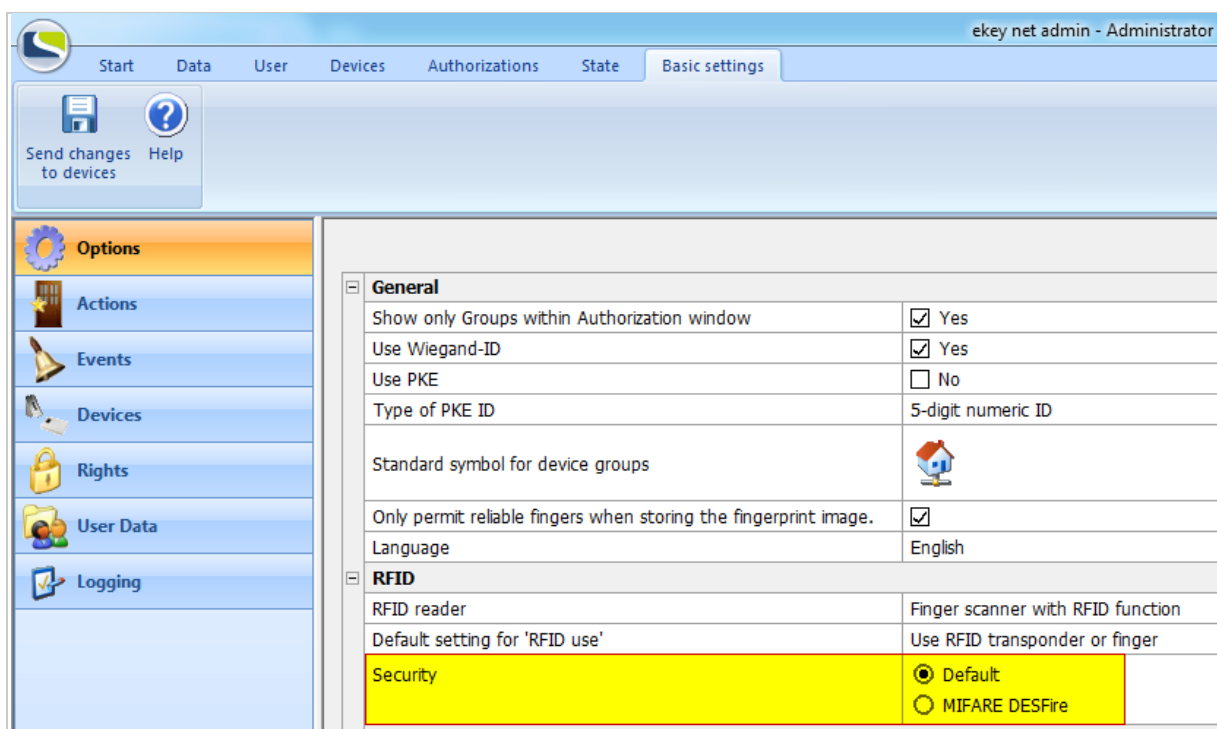

Fig. 169: Activate MIFARE DESFire EV1: **BASIC SETTINGS: OPTIONS: RFID**
1.	Under BASIC SETTINGS: OPTIONS: RFID , change the SECURITY setting from Default to MIFARE-DESFire . If SECURITY is grayed out, the system contains at least one device that is not compatible with this setting. See "Fig. 169: Activate MIFARE DESFire EV1: BASIC SETTINGS: OPTIONS: RFID ", page 200.